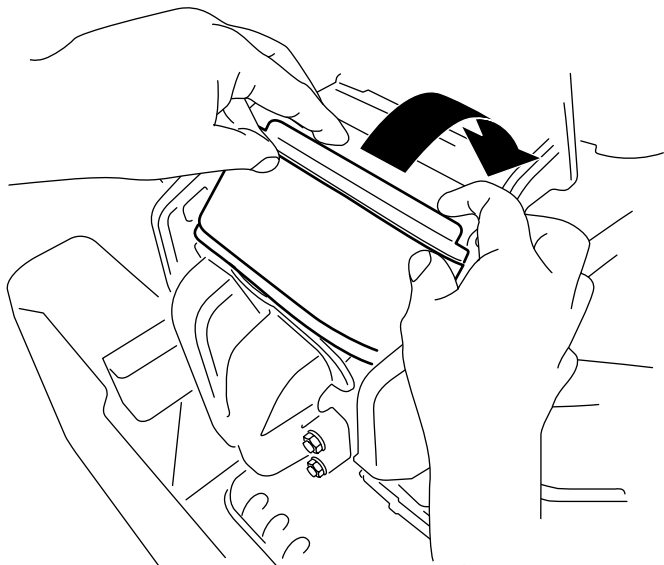

Figure 34
- 3. Rotate the filter down into the chamber and fully seat it against the manifold (Figure 34).